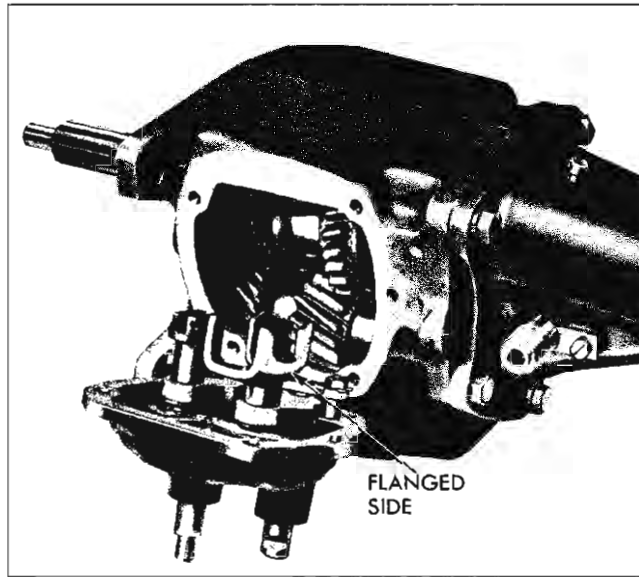

Fig. 7-13 Positioning First and Reverse Shifter Fork in Transmission Side Cover
**NOTE:** Flanged side on first and reverse shifter fork must face rear of transmission as shown in Fig. 7-13.